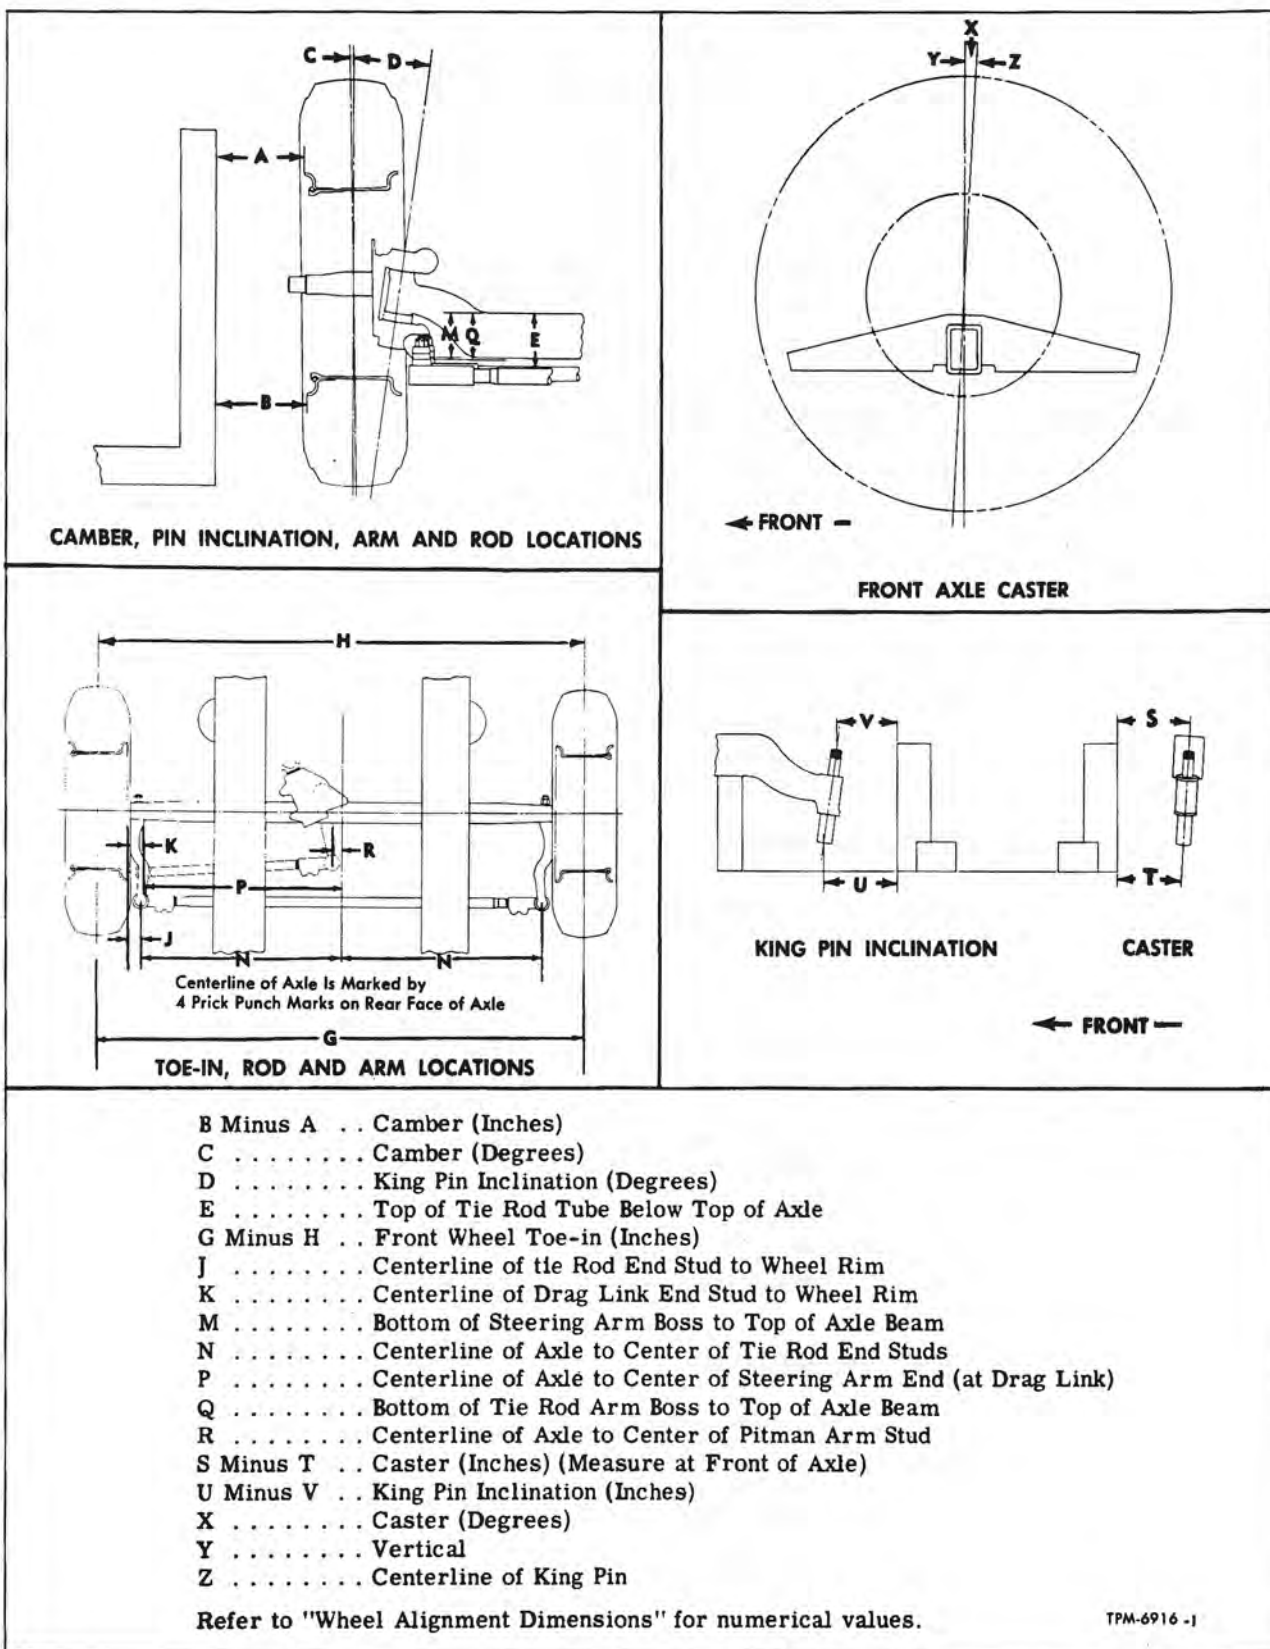

Figure 1—Front End Alignment Chart
**WHEEL TOE-IN.** Distance front wheels are closer together at front than at rear of axle (see "G" and "H," fig. 1).
**WHEEL CAMBER.** Amount wheels are inclined from vertical plane (see "C," fig. 1).
**FRONT AXLE CASTER.** Inclination of king pin from the vertical in the fore and aft direction of the vehicle (see "X," fig. 1).
**KING PIN INCLINATION.** The slant of the king pin toward the center of the vehicle at the top and outward at the bottom (see "D," fig. 1).
Toe-in may be measured from centers of tire tread or from inside of tires or rims. Measurements at both front and rear of axle (see "H" and "G," fig. 1) must be made at same height from floor.
Measure at point "H" and "G" (fig. 1). Toe-in is "G" minus "H."
In checking camber, it is recommended that an accurate gauge be used. If a camber gauge is not available, readings can be taken as illustrated at "A" and "B" on chart (fig. 1). Place square as shown and measure distance between "A" and rim, and "B" and rim. Lower dimension should exceed upper dimension by amount listed in "Specifications" at end of this section. This dimension on right wheel should not vary over  $3/32$ " from same dimension taken at left wheel.
If final camber reading is incorrect, either steering knuckle or axle center is bent. To determine which part is bent, check king pin inclination ("D," fig. 1). Camber plus king pin inclination is the INCLUDED ANGLE of steering knuckle. If included angle of knuckle varies more than  $1/2$  degree from value given in "Specifications," knuckle is bent.
Place two uniform blocks on level surface, rest suspension support seats on blocks. Using square, measure "S" and "T" at front side of axle (fig. 1); dimensions "S" minus "T" equals caster in inches. If this dimension does not agree with specified value, then axle is twisted.
Place two uniform blocks on level surface, rest suspension support seats on blocks. Using square, measure "U" and "V" dimensions (fig. 1). "U" minus "V" equals king pin inclination in inches.